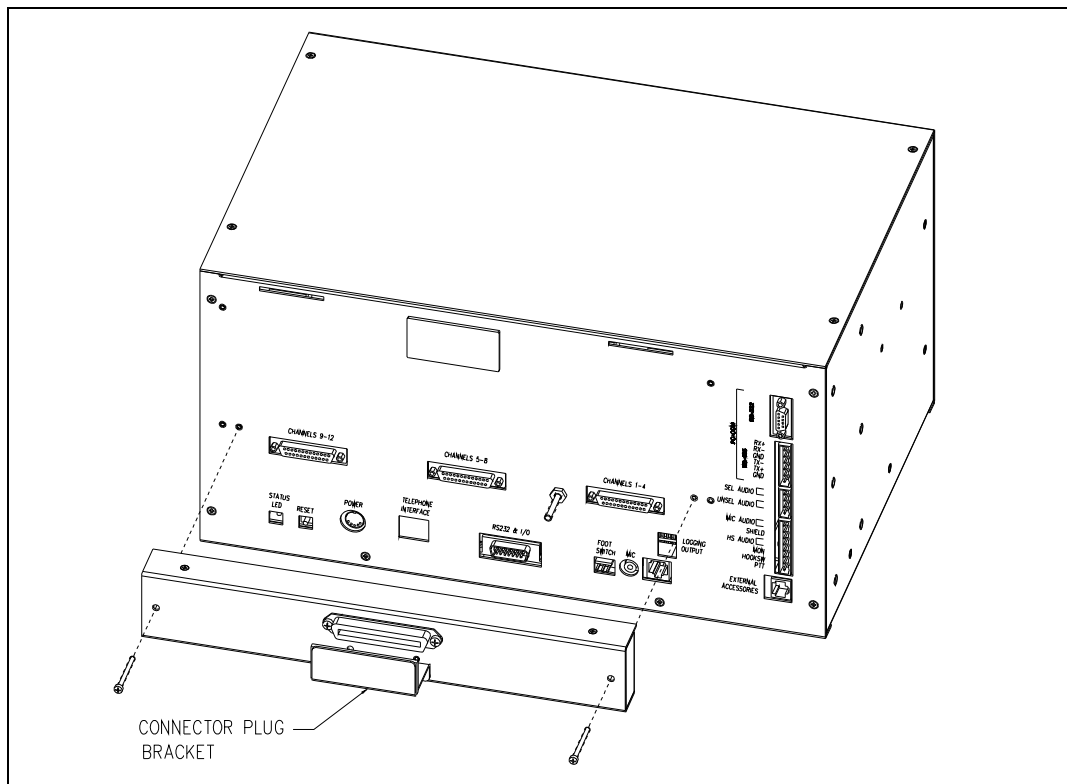

Figure 30.
2. Mount the Telco Interface to the rear of the MCU. Refer to Figure 30. Position the Telco Interface so that the three DB25 connector plugs line up with the DB25 connector receptacles on the rear panel.
3. Secure the Telco Interface with the supplied #6-32 screws shown in Figure 30, tightening them until the Telco unit is snug against the rear panel.